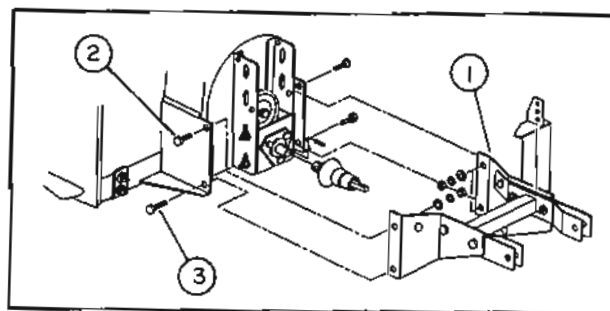

FIGURE 11
- b) Attach pushframe (fig.11, item 1) to snowblower using one 3/8" x 3/4" bolt in the upper hole of each side (fig.11, item 2), placing the bolt head on the outside, lockwasher and nut on the inside. Use one 1/2" x 1" bolt, lockwasher and nut in the bottom hole of each side (fig.11, item 3). Securely tighten bolts (fig.11, items 2 & 3).